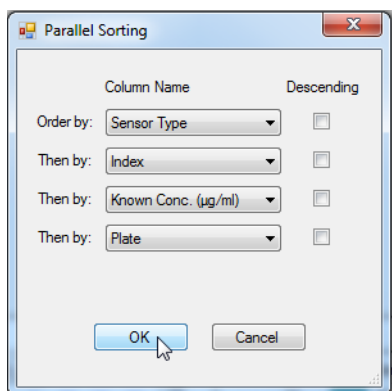

Figure 4-28: Parallel Sorting Dialog Box
- b. In the Parallel Sorting dialog box, select the desired sorting parameters and click **OK** (Figure 4-28).